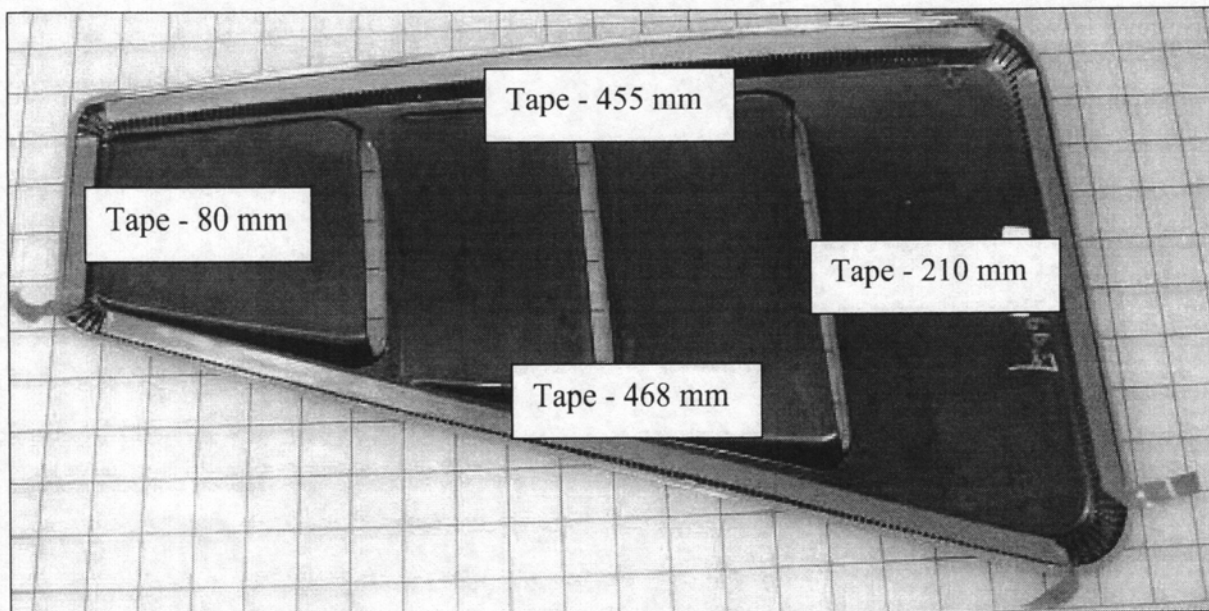

Figure 4
11. Apply the Tape Strips to the part as shown in Figure 4. Using a trim roller, apply firm pressure to the entire length of tape to ensure a tight bond to the louver ribs. Bend and crease the red backing tape tabs to the outside of the part as shown. Avoid exposing or touching the tape adhesive.